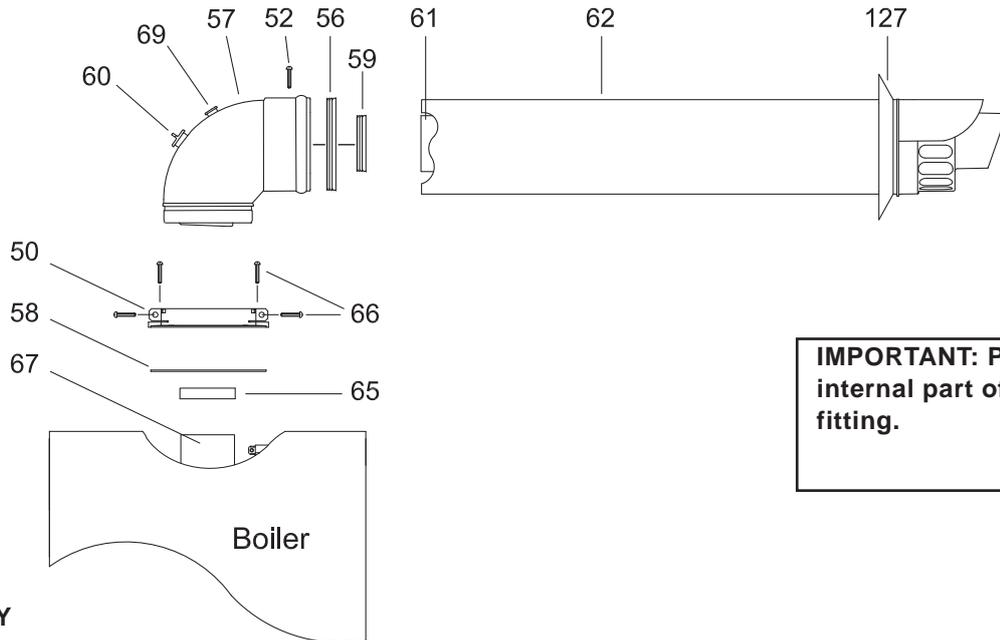

Fig.17
Important: Make sure that the inner 60 mm diameter of the elbow header is inserted fully into the flue manifold, and the flue manifold rubber seal is correctly fitted. (Fig 17 item 65)
If an extension must be shortened, this must be done from the straight end, and not from the widened or tapered end. To measure the pipeline properly all components must be assembled and total length measured before cutting. The straight end of the extension connects to the boiler. The flue output and air intake pipes fits into the boiler header until it stops (fig.17 - 18).